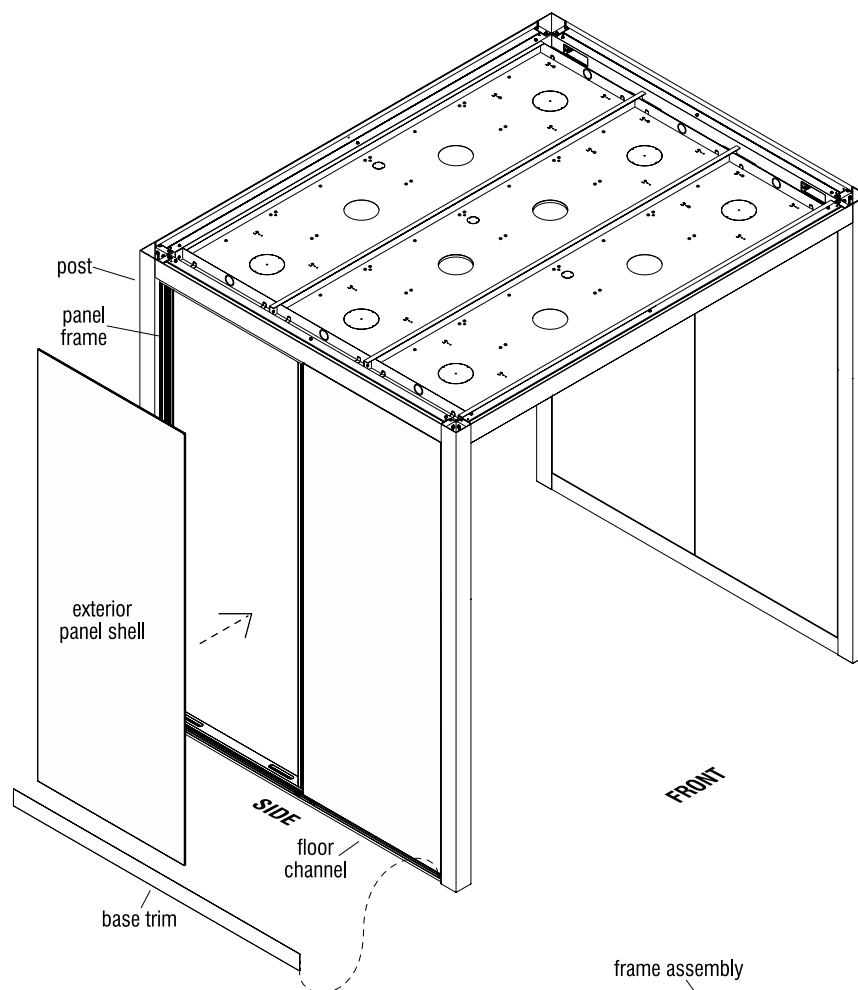
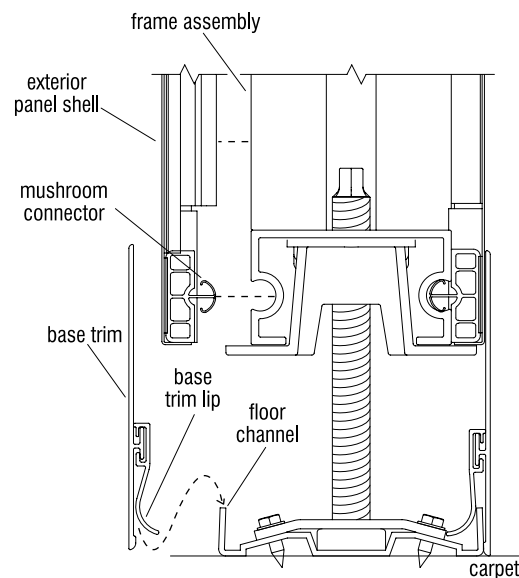

Figure 9
Figure 10
23. To install each panel shell to a frame assembly, position the panel shell squarely against the frame assembly, aligning the mushroom connectors at the perimeter of the panel shell with the corresponding mushroom cavities around the panel frame. Then firmly press around the panel shell to fully seat each mushroom connector into its cavity (Figures 9 & 10).
24. Measure between the posts to determine the size the base trim should be cut to and cut base trim to size (Figures 9 & 10).
25. To install base trim, position the bottom, base trim lip over the edge of the floor channel and press down on the base trim so it sits slightly into the floor channel and flush against the panel shell (Figure 10). Using a base trim installation block (or "cheeseblock") and hammer, position the block over the top of the base trim and tap down on the block/trim to seat the trim into the channel. Work carefully along the entire length of the base trim until it is fully seated and uniform (Figures 9 & 10).